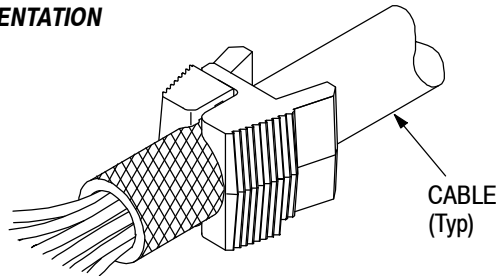

Figure 7
13. Place cable clamps on both sides of the cable at the cable outlet of the shield. See Figure 7.